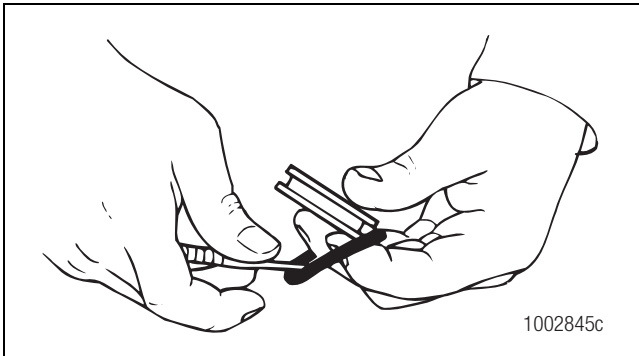

Figure 8
- Use a high-powered magnet or magnetic base of a dial indicator to remove the piston. Inspect the O-ring for any damage such as cracks, cuts or breaks and replace if necessary. Figure 8.